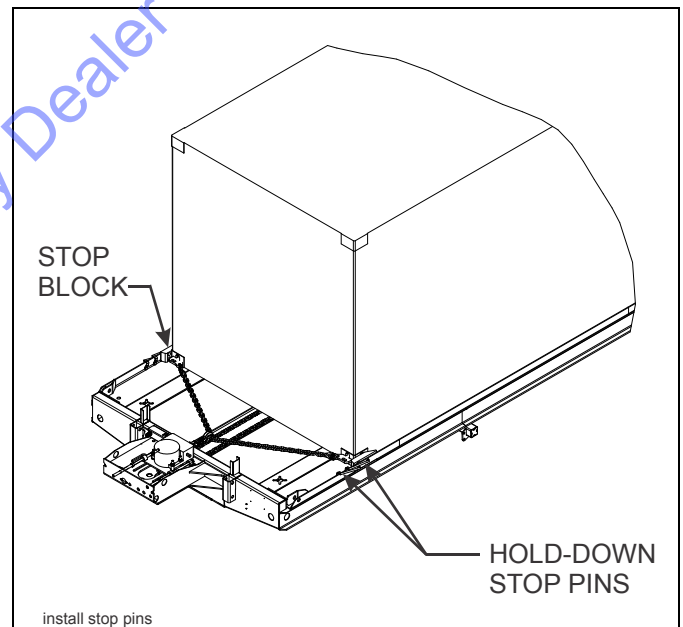

**Figure 3-4: Chain Connections**
- c. Connect the container chain harnesses provided with trailer to the container corner castings (**See Figure 3-4.**)